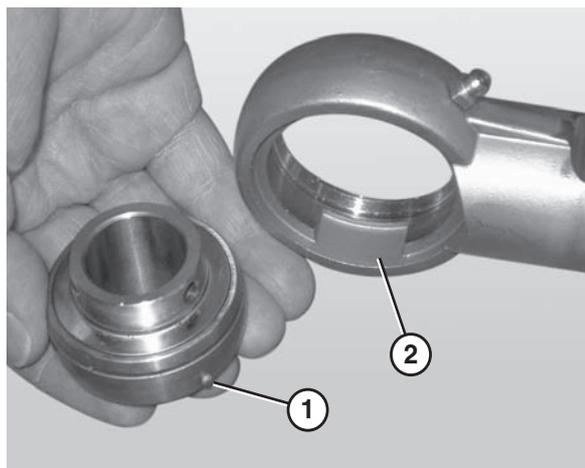

Figure 89
- Remove the worn or damaged bearing (**Figure 89**).
When inserting the new bearing, make sure the anti-rotation notch (**Figure 89, item 1**) on the bearing lines up with the groove inside the housing (**Figure 89, item 2**).